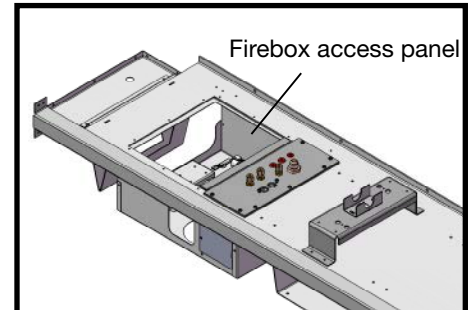
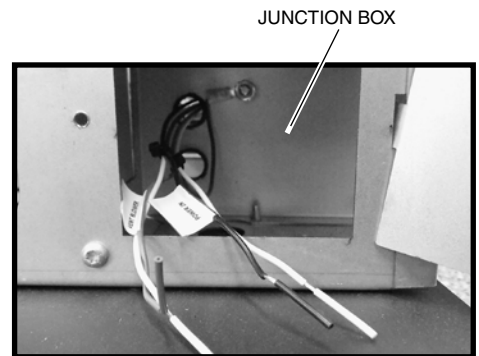
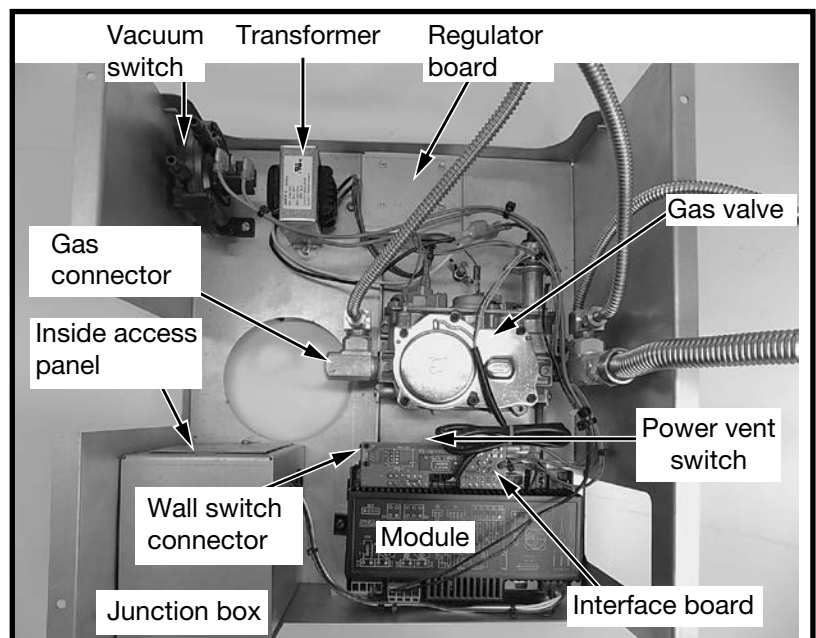
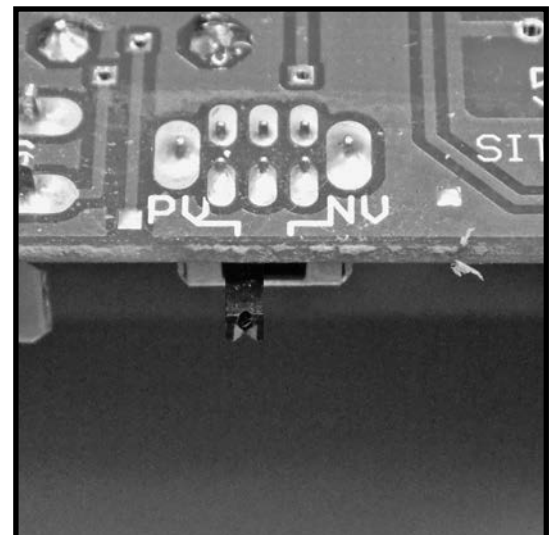

Figure 26: Firebox access panel.
Figure 27: Junction box wiring.
Figure 28: Valve assembly components.
Figure 32: Vent mode selection switch.
3. Remove access panel from bottom left hand side of the firebox (Figure 26).
4. Ensure that the switch on the IFC board is set to PV (Power Vent) (Figure 28).
5. Connect 110 V. AC electrical supply to the wires installed inside the junction box (Figure 26). The fireplace is rated at 110 volts, 60Hz, 0.25A. The optional power vent kit is rated at 115 volts, 60Hz, 1.8A. The electrical wires can be accessed from both inside and outside the junction box by removing one of the two small access panels (Figure 27 and Figure 28).
8. Attach one end of the wall switch control cable to the interface board (Figure 28), and the other end to the wall control (Figure 30).
The NV/PV (Natural Vent / Power Vent) switch (Figure 32) on the interface board (Figure 28) is set according to which type of evacuating vent system is present. In all cases with the TCWS54STOK fireplace, the NV/PV switch **MUST** be set to PV.
1. Connect the gas supply to the gas connector (Figure 28)